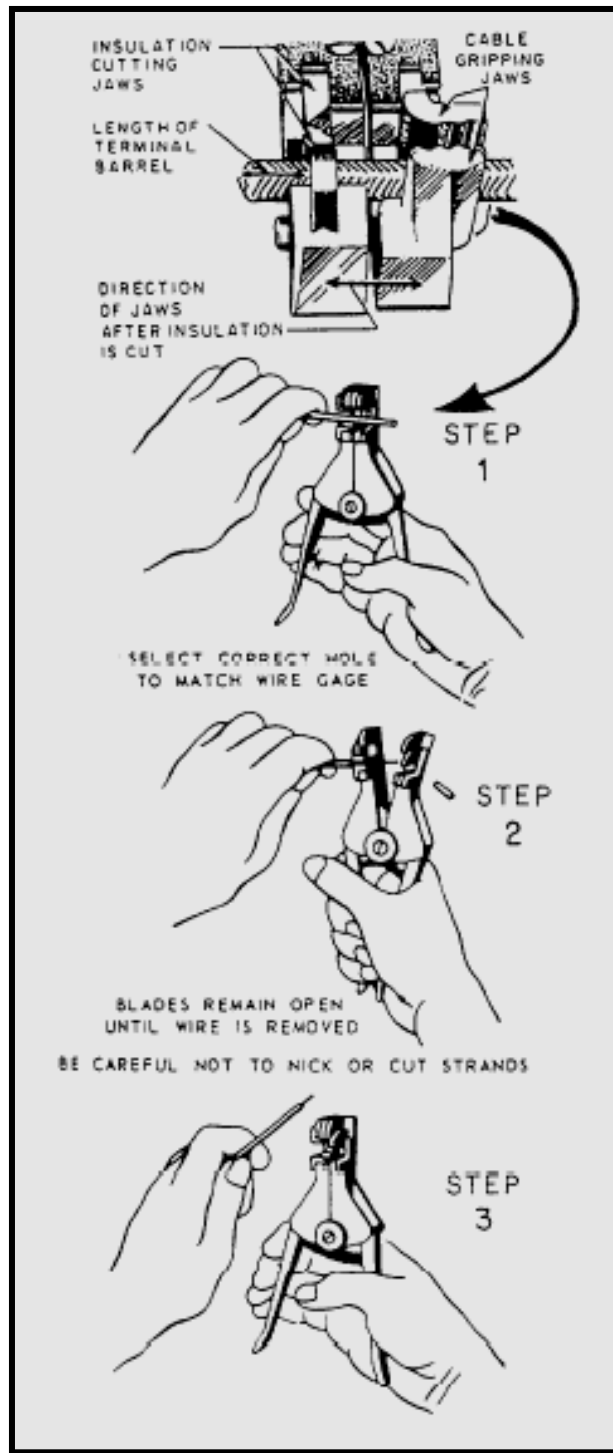

Figure 2-59.—Stripping wire with a hand stripper.
**CONDUCTOR ENDS.**— Hand wire strippers (fig. 2-58) are used to strip insulation from the conductors. Figure 2-59 shows the proper procedure for stripping conductor ends using the hand wire strippers. Care must be taken to avoid nicking the conductor while removing the insulation. Do not use side, or diagonal, cutters for stripping insulation from conductors.